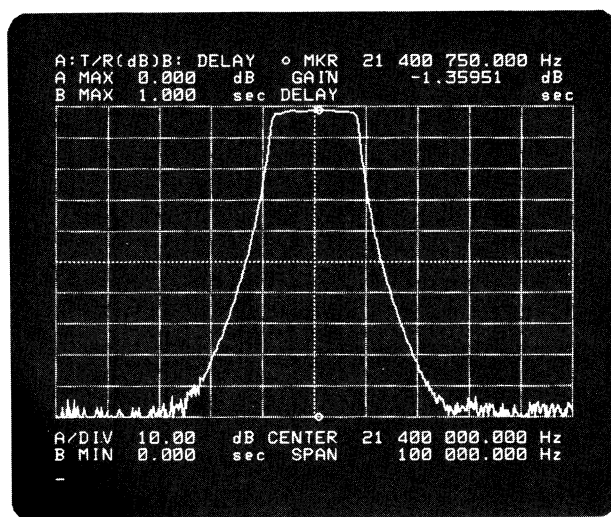

Figure 21. Insertion Loss Measurement
Press the MKR/LCURS, menu, and MKR  $\rightarrow$  MAX(A) keys, then the marker indicates an insertion loss value of 1.360dB. (See Figure 21.)